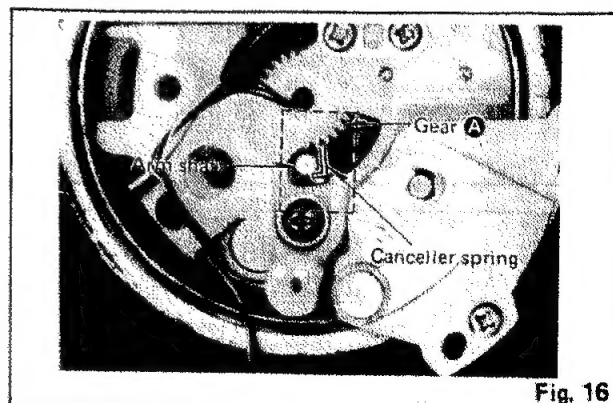

Fig. 16
If the arm body or PU base plate is replaced, be sure to set the canceller knob to "0.5" and make sure that the canceller spring is in contact with the arm shaft. (See Fig. 16)
3. Remove the PU base plate, adjust gear A so that the canceller spring is in the position of Fig. 16.